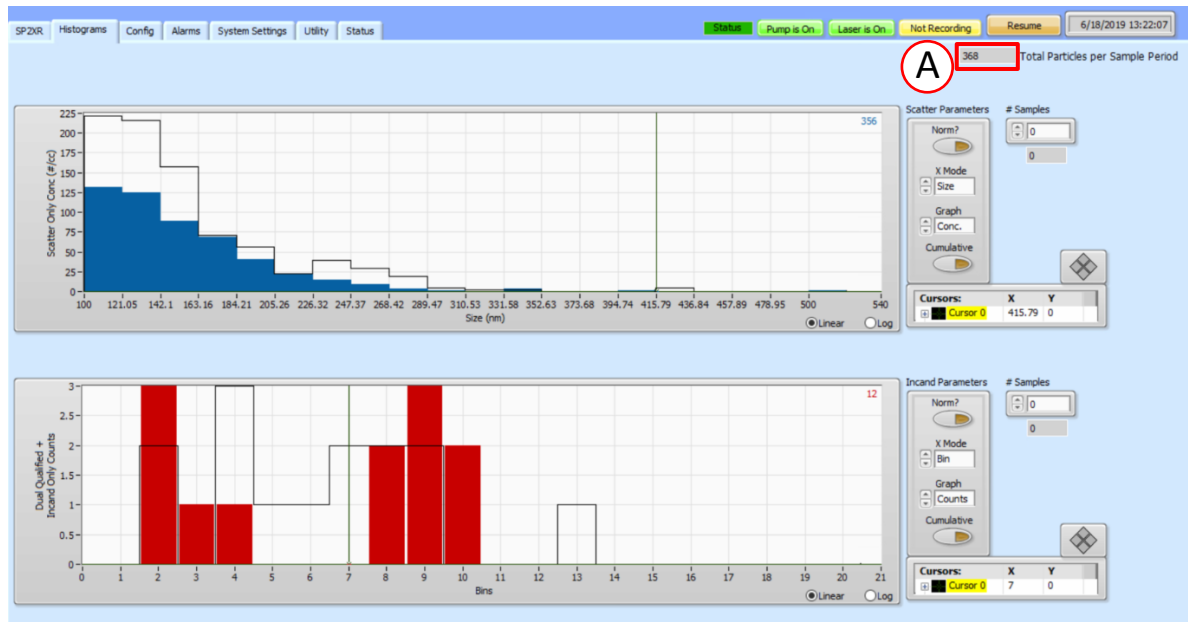

Figure 13: Histograms window: Scatter (blue) and Incandescent (red)
The Histograms tab (Figure 13) shows plots of particle diameter versus scattering counts and particle mass versus incandescence counts. These numbers are obtained from threshold tables. The total number of qualified **total particles per sample period** are recorded in the top right field (A). Histogram parameters: